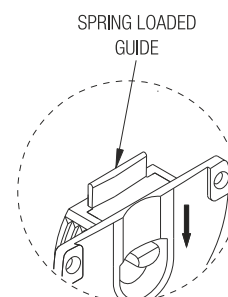

Fig.3
6. Spring loaded guide in top housing is pulled down so as to engage in top rail there by retaining the shutter. (Refer Fig.3).